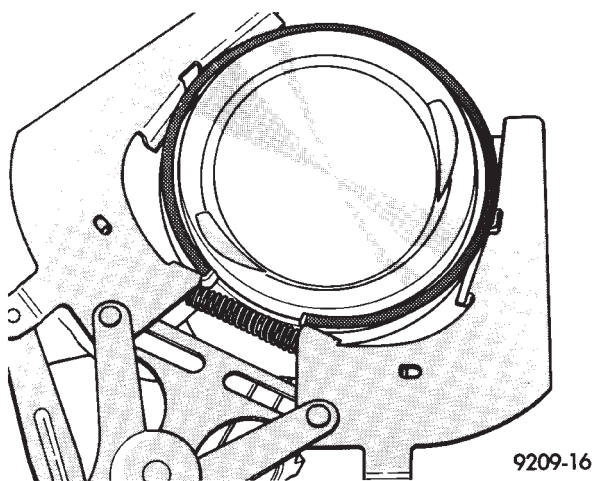

Fig. 96 Piston Rings—Removing and Installing
- (1) ID mark on face of upper and intermediate piston rings must point toward piston crown.
- (2) Using a suitable ring expander, remove upper and intermediate piston rings (Fig. 96).
- (3) Remove the upper oil ring side rail, lower oil ring side rail and then oil ring expander from piston.
- (4) Carefully clean carbon from piston crowns, skirts and ring grooves ensuring the 4 oil holes in the oil control ring groove are clear.